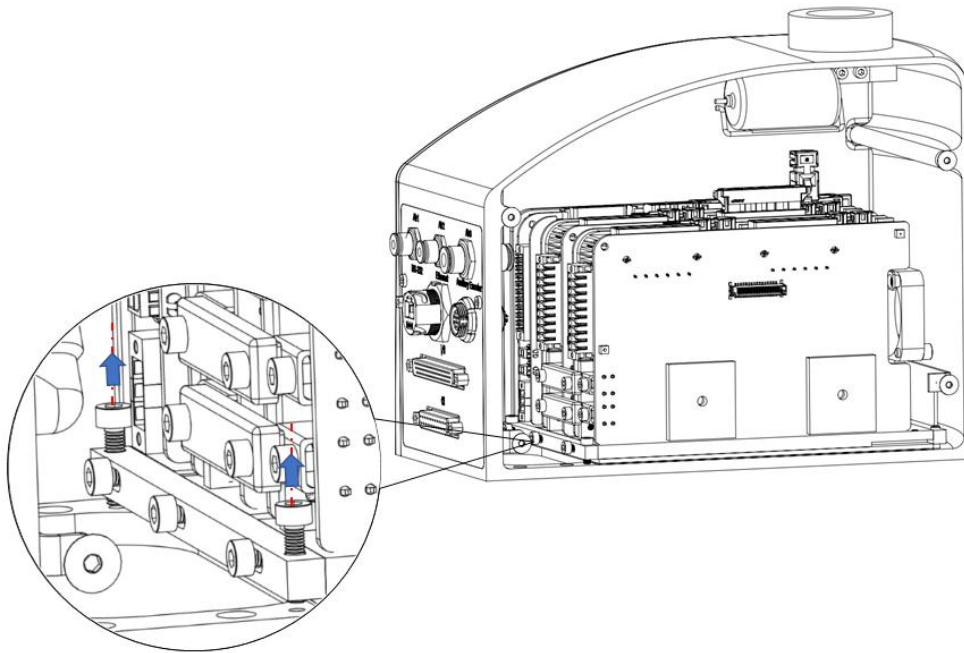

Figure 5-5 Removal of screws from controller fixing part
- Step 3** Remove all screws (as shown in Figure 5-5 and Figure 5-6 ) from the mounting part of the controller. Take the controller out of the upper control cabinet.